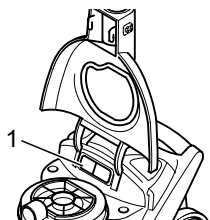

Fig. 23
3. Take out the protective motor filter (Fig. 23/1).